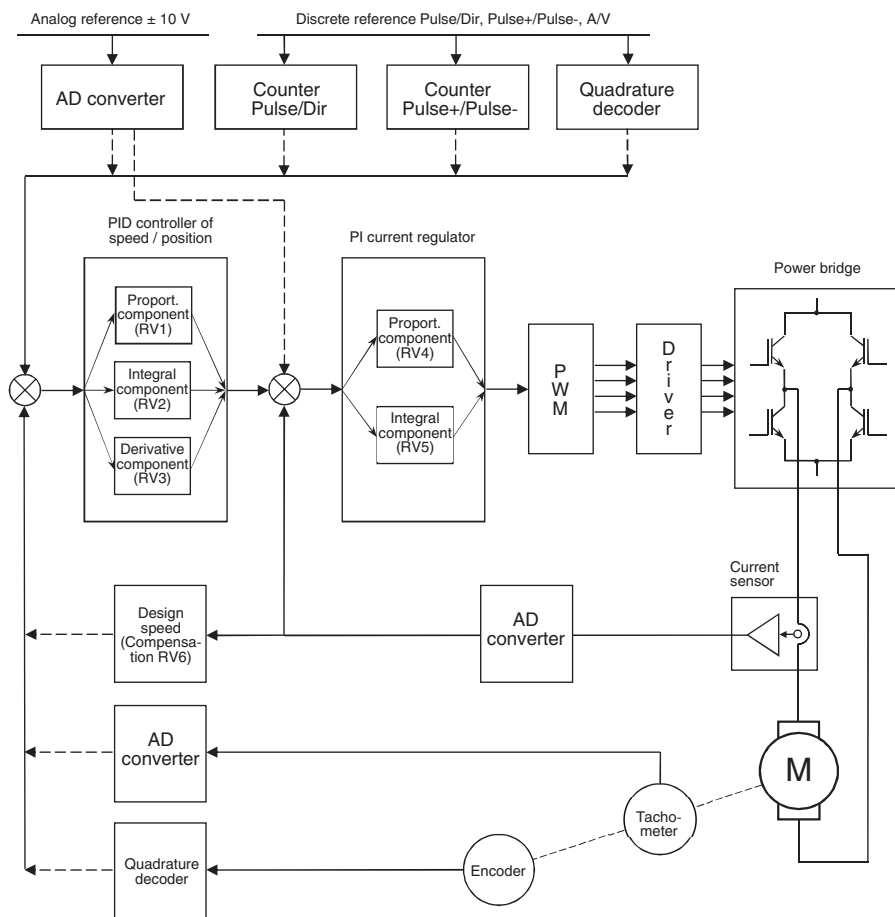

Fig. 1.2. Block diagram of the amplifier
1.4.2. Block diagram of the amplifier is shown in Figure 1.2. The servo amplifier is based on a subordinated regulation system, consisting of a PID speed/position controller and PI current regulator. Counters of the input discrete signals, the quadrature decoding of the signals of the reference and feedback are hardware. The control and the protection systems are implemented in software-based microcontroller.